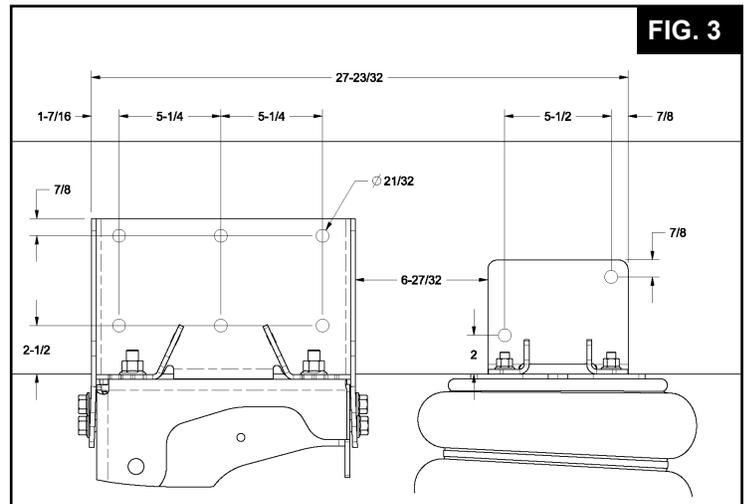

FIG. 3
9.3 Once the frame brackets are clamped tightly to the outside and bottom surfaces of the truck frame, check all clearance issues and then center punch all mount holes. (See Fig. 3 for recommended mount hole location.)